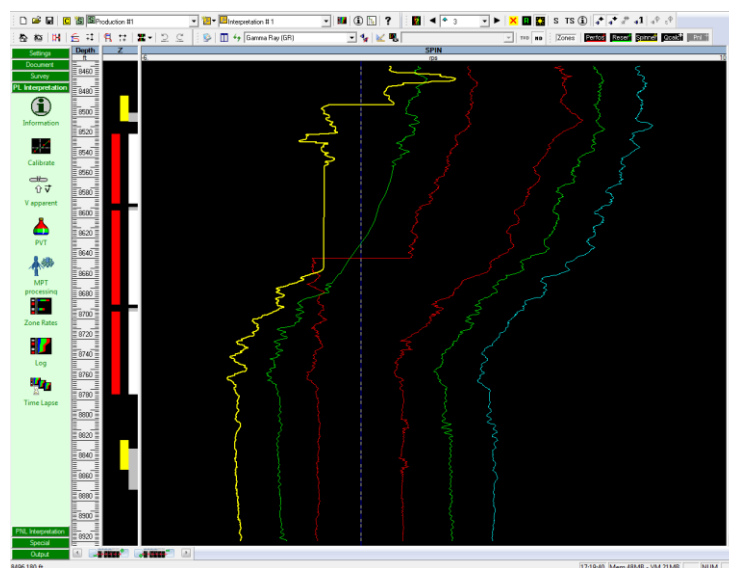

Fig. B02.31 • Up3 Flowmeter edited with 'Delete parts' and 'Fill gaps'
- Select Edit - 'Fill Gaps' in the Browser, or . 'Fill gap inferior to...', say 300 ft. The resulting SPIN plot is shown on Fig. B02.31.